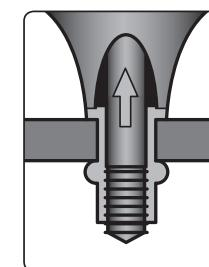

Fig. 6
- 6) **Firmly hold the rivet drill adapter in your hand, maintain a stable stance and the clockwise rotation of the chuck head will result in the connection of two parts (fig. 6).**